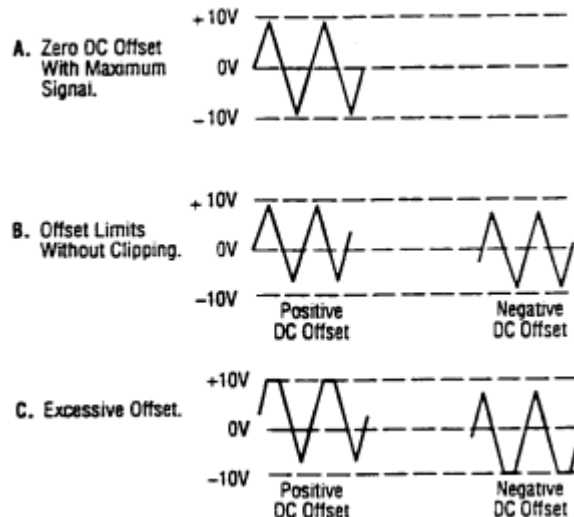

Figure 3. Use of DC OFFSET Control
- Adjust the amplitude of the output as desired using the **OUTPUT LEVEL** control (10). Rotation of this control varies the amplitude from maximum to 20dB below maximum. An additional attenuation of -20dB is available by pushing in the **-20dB** switch (5). The attenuation factors can be combined for a total of -40dB. The maximum signal level is 10V p-p (into 50Ω).
- A DC component can be added to the output signal by pushing in the **DC OFFSET** switch (4) to enable operation of the **DC OFFSET** control (11). Rotation of this control adds a positive or negative DC component to the output signal. The DC component introduced is independent of the **OUTPUT LEVEL** control and can be varied by ± 10 volts open circuited or ± 5 volts into 50Ω. The DC Offset does not affect the **TTL/CMOS** output jack. The effect of DC OFFSET is shown in Fig. 3.
6. Remember that the output signal swing of the generator is limited to ± 10 volts open circuited or ± 5 volts into 50 Ω , and applies to the combined peak-to-peak signal and DC offset. Clipping occurs slightly above these levels. Fig. 3 illustrates the various operating conditions encountered when using the DC offset. If the desired output signal is large or if a large DC offset is required, an oscilloscope should be used to make sure that the desired signal is obtained without undesirable clipping.